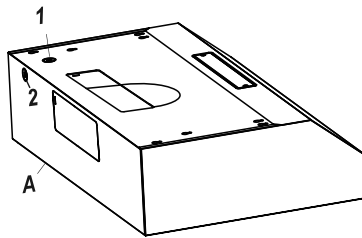
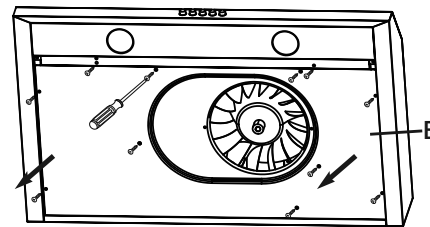

Fig. 10
Fig. 13
- Remove the bottom panel of the range hood (see Fig. 13) to access the electrical wire leads.
- Use the power supply cable to connect the range hood (A) directly to the junction box or circuit breaker box. Use a flexible, armoured, or nonmetallic sheathed copper cable only. Never use an extension cord or adapter plug.
- Connect a UL-listed or CSA-approved conduit connector to each end of the power supply cable (at the range hood and at the junction box). Connect the 2 colored wires from the range hood (A) to the corresponding wires from the electrical source: black to black (live), white to white (neutral), and the house grounding wire to the green ground screw. Use either the top hole (1) or the back hole (2) of the range hood depending on your installation type as shown in Fig. 10.
- Choose the appropriate electrical knock-out hole to remove for your installation type. Use the top hole (1) if your electrical supply is in the cabinet and the back hole (2) if your electrical supply is on the wall below the cabinet (refer to Fig. 10).
- The damper and the adapter are located inside the range hood. To access these parts, remove the bottom panel (E) if you have not already done so (see Fig. 13).
- Choose to install the damper (C) either in the top position (3) for top venting or in the back position (5) for back venting. Adapter (D) installs to position 3 & 4 for top venting only.
- Attach damper (C) or adapter (D) over chosen knockout opening. Make sure the damper pivot is oriented on top such that the damper stays closed when not in use.
- Secure the damper (C) or adapter (D) to the range hood (A) with the short tapping screws (BB).
- Seal the damper (C) or adapter (D) to the range hood (A) on all four sides with duct tape.